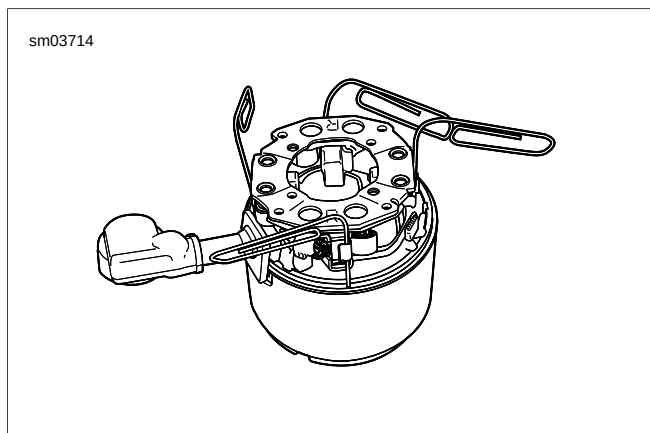

Figure 7-20. Install Paper Clips to Hold Brush Springs
2. Retract all four brushes for armature installation. For good results, obtain four paper clips. Bend free end of each paper clip outward approximately 90°. Then, pushing on inboard side of brush, insert straight end of paper clip between outboard side of brush and inboard side of brush spring. Properly installed, the paper clip contacts the framework of the brush holder to keep spring pressure off the brush. Repeat step on remaining three brushes as shown in Figure 7-20.